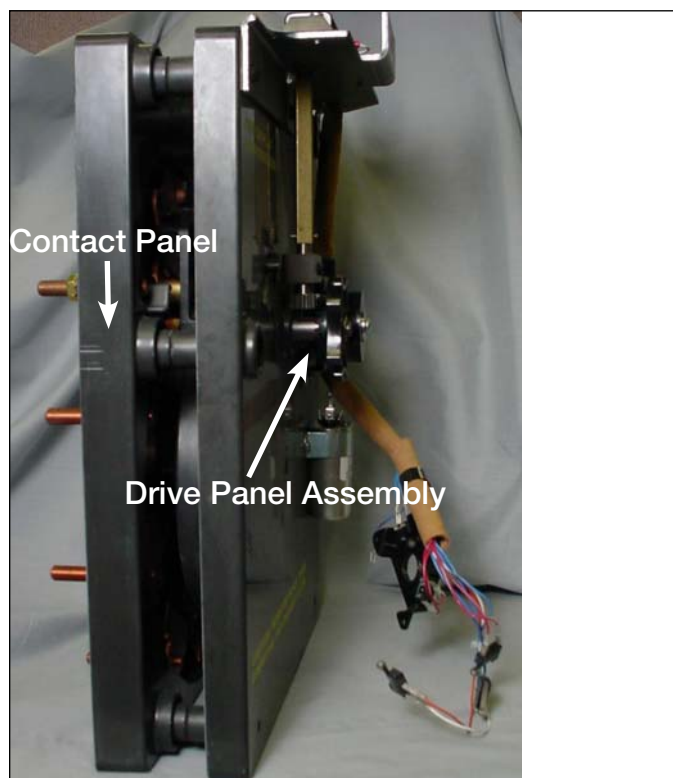

Figure 35.
4. Press both of the tap changer assembly sections together and stand-up-right. See Figure 35